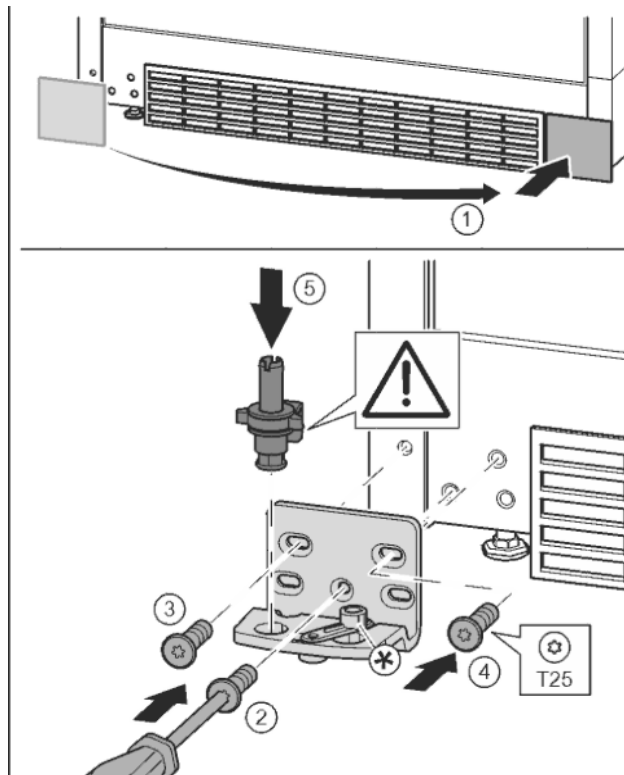

Fig. 12
- Remove the cover and fix onto the other side. Fig. 12 (1)
- Place the bearing bracket on the other side and screw in with the T25 screwdriver. Start with screw 2 at the bottom in the middle. Fig. 12 (2)
- Screw in screws 3 and 4. Fig. 12 (3, 4)
- Insert the bearing bolts completely. Ensure here that the catch mechanism points backwards. Fig. 12 (5)